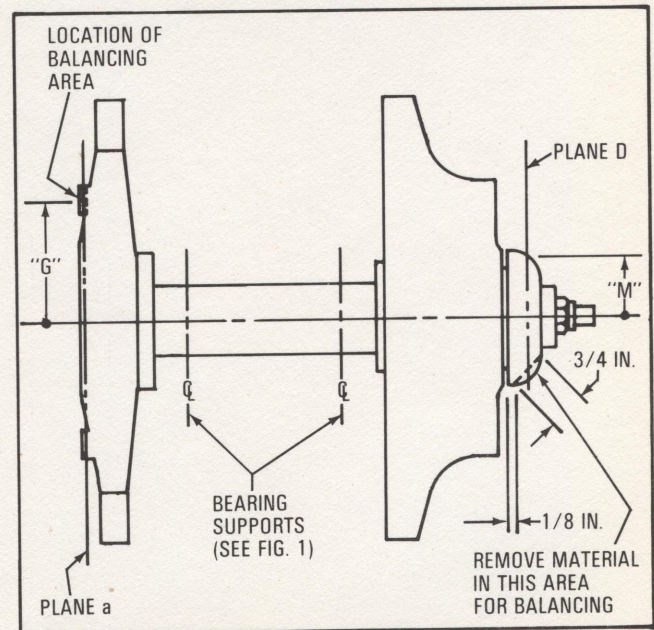

FIG. 4. ROTOR ASSEMBLY SUPPORT BEARING AREAS AND BALANCING INFORMATION.
- After completing Steps 1 thru 6, support the rotor assembly at the bearing supports, Fig. 2. Dynamic balance to 0.01 in.-oz. at 1100 rpm minimum in each of the two planes shown (Planes a and D) by removing material from the two areas shown in Fig. 4. Make corrections in Plane D first. Refer to Table IV.